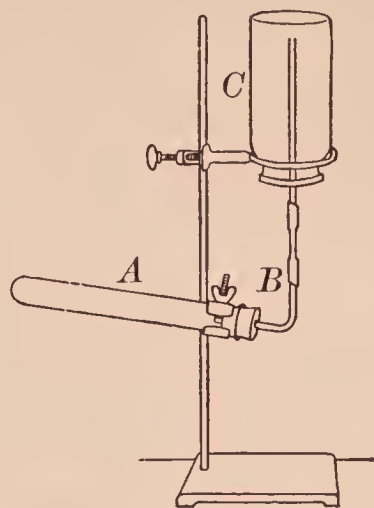
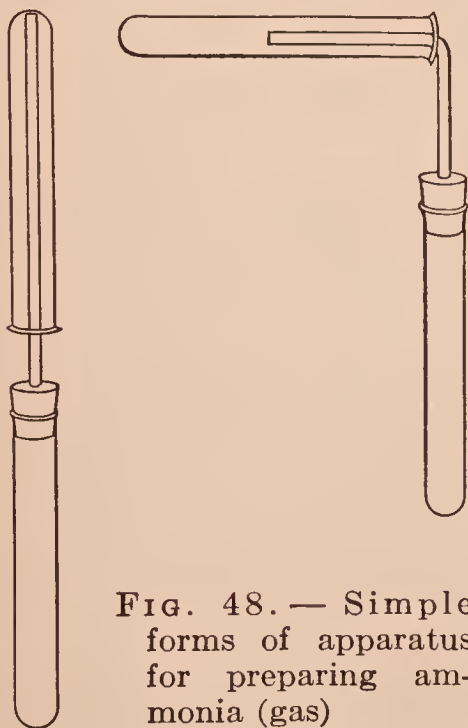

FIG. 47. — Apparatus for preparing ammonia
FIG. 48. — Simple forms of apparatus for preparing ammonia (gas)
**APPARATUS.** — As in Fig. 47. The test tube *A* is provided with a one-hole rubber stopper to which is fitted a glass tube *B* which reaches well up into the bottle *C*; 3 bottles, pneumatic trough filled as usual. Optional forms of apparatus (as in Fig. 48) may be used.
**I. Preparation.** — Weigh 10 gm. of lime and 10 gm. of ammonium chloride, and mix them thoroughly on a piece of paper. Slip the mixture into *A* (Fig. 47), and add a little water, thereby transforming the calcium oxide into calcium hydroxide. Mix well. Quickly insert the stopper with its tube, and clamp *A* as in Fig. 47. Stand the bottle *C* over the tube *B*.
If the simpler apparatus (Fig. 48) is used, put about 5 gm. of each ingredient, together with the water, in the lower test tube. Heat this tube and collect the gas in the upper tube.